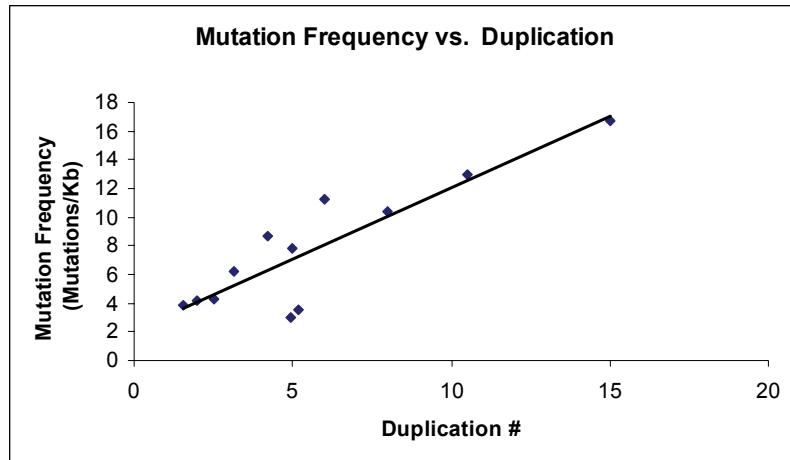

Figure 1 Relationship between mutation frequency and duplications.
Equation (1) shows that mutation frequency is the product of DNA polymerase error rate and number of duplications. So, any change in *d* leads to a proportional change in the mutation frequency. An example of this relationship is given in Figure 1, which shows experimental data obtained using the GeneMorph II kit. Equation (3) shows that *d* depends on the ratio of total PCR product yield (per 50-µl reaction) to initial amount of target DNA. In the GeneMorph II kit, *d* (and hence mutation frequency) is varied by varying the initial amount of target DNA in the amplification reaction. For the same PCR yield, targets amplified from low amounts of target DNA undergo more duplications than targets amplified from high concentrations of target DNA. The more times a target is replicated, the more errors accumulate. Therefore, higher mutation frequencies are achieved simply by lowering input DNA template concentration. Conversely, lower PCR mutation frequencies can be achieved by using higher DNA template concentrations or fewer PCR cycles to limit the number of target duplications.
Customers interested in determining the mean mutation frequency achieved in their amplification reaction can do so by determining the d value; d values are calculated from equation (3) after quantifying PCR product yield using the recommendations (standard curve) described in step 6 in *Protocol* section. Expected average mutation frequency (mutations per kb) can then be determined by extrapolation from the above graph (see Figure 1).